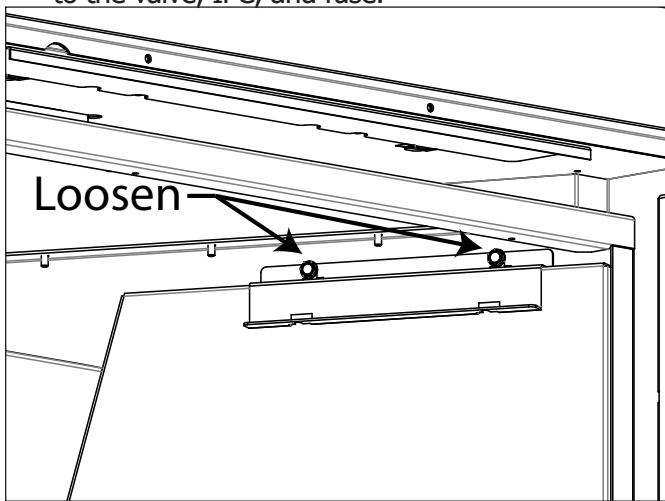

Figure 18: Liner Retainer Removal
3. A side cover can be found on the inner right side of the unit. It is held in place using two magnets. Gently pull the side panel out and away from the unit (see Figure 18).
- Pressure taps for the inlet (IN) and the manifold (OUT) *see page 49*